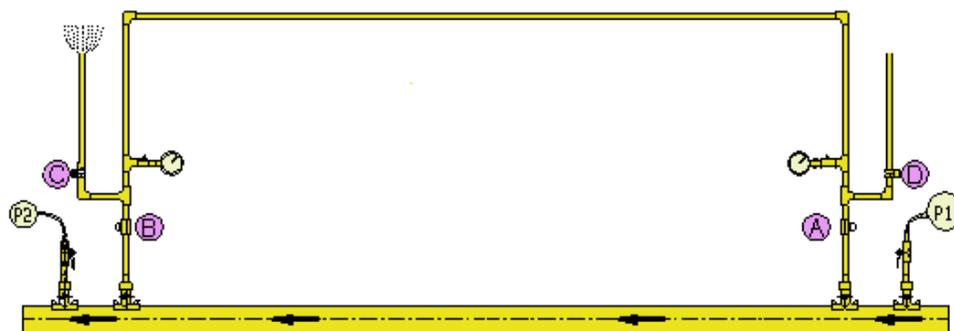

Figure 35- Commission Bypass (1)
3. Purge until two independent readings of 90% gas in air has been obtained at purge vent C, and then close valves A & C. See Figure 35.